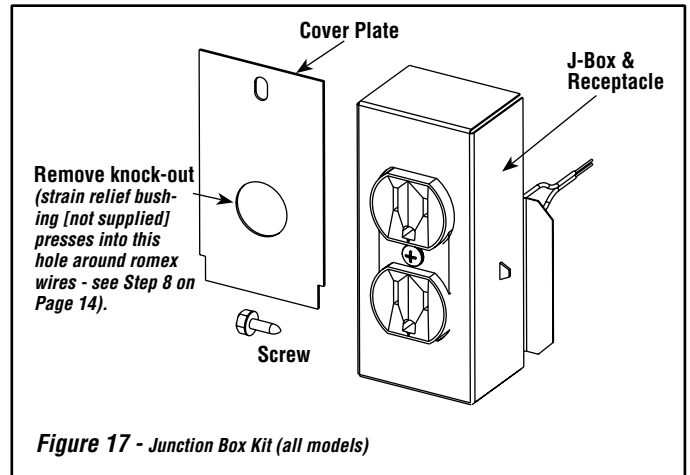

Figure 17 - Junction Box Kit (all models)
- Wires will need to be passed through the hole shown in **Figure 17**.
- An approved strain relief bushing (not supplied with the kit), is required to restrain the wires (see **Figure 17**).